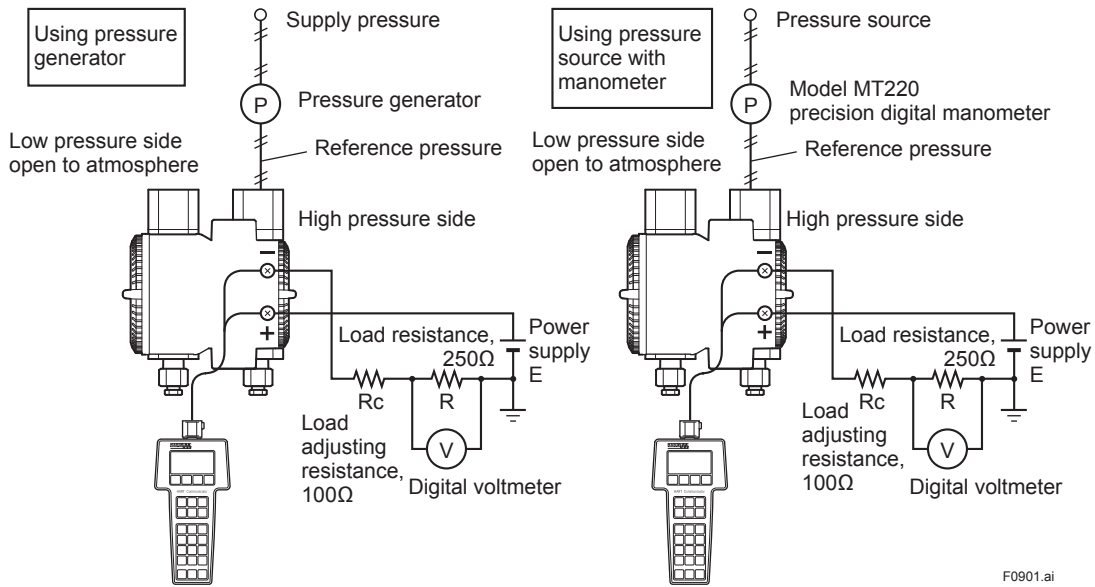

Figure 9.1 Instrument Connections for Differential Pressure (HART protocol type)
- 1) Connect the instruments as shown in figure 9.1 and warm up the instruments for at least five minutes.